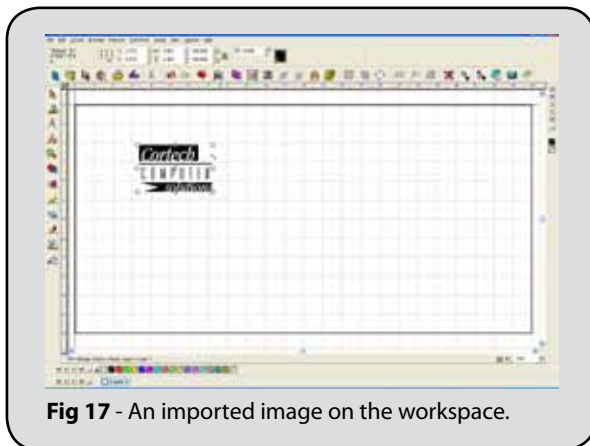

Fig 17 - An imported image on the workspace.
4. Click on the workspace to place the imported file. (Fig. 17)